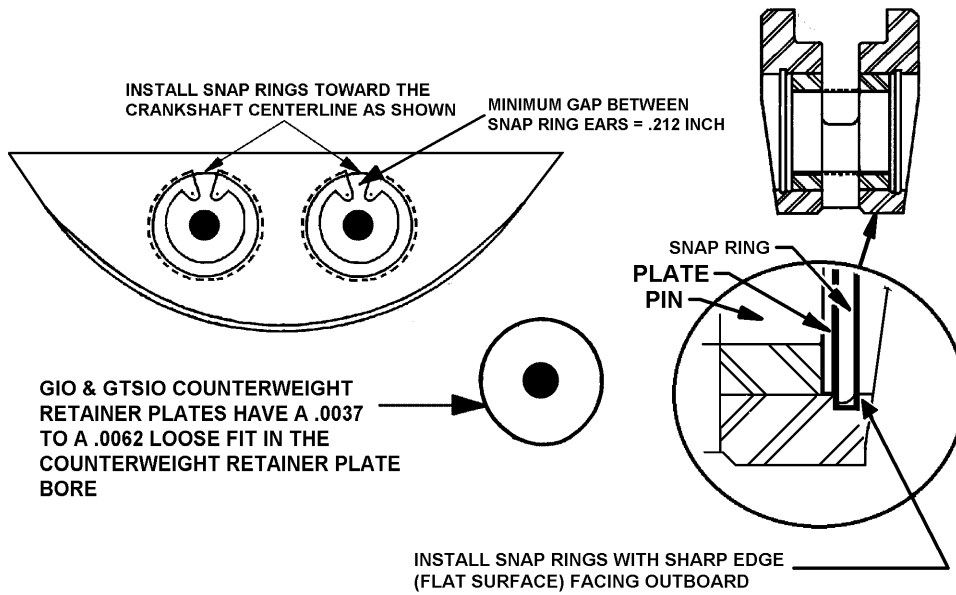

FIGURE 5
*The snap rings and retainer plates must be installed as shown in Figure 5.*
3. Visually and dimensionally inspect all snap rings to insure the snap ring is correctly installed and fully seated in its groove. See Figure 5.